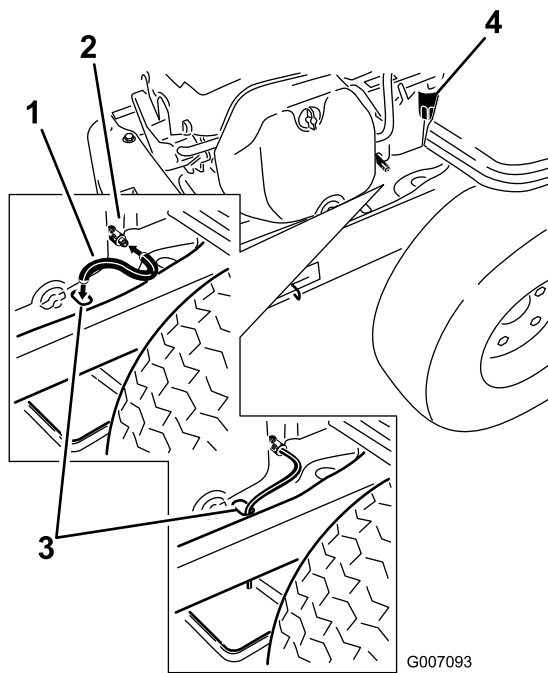

Figure 32
5. Clean the area around the drain valve and on the machine frame. Locate the oil drain hose and slide it over the drain valve (Figure 32).
6. Place the opposite end of the oil drain hose through the drain hole in the frame (Figure 32).